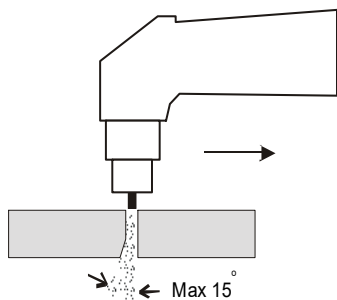

Fig. 8
1. The cutting speed is too high. Make sure the slope of the cutting arc does not exceed about 15° (see Figure 8).